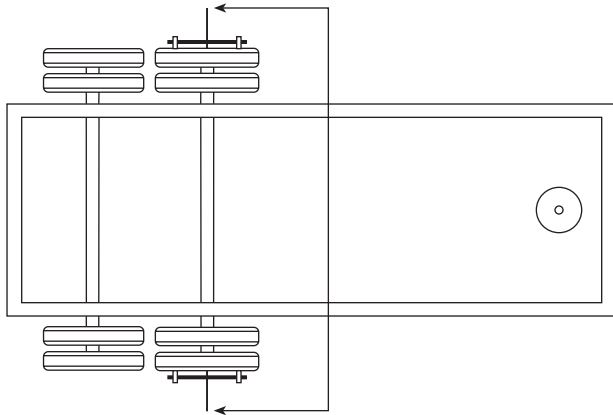

Figure 25. Measuring target value
- a. Measure the point-to-point width of the installed wheel-end extenders (figure 25).